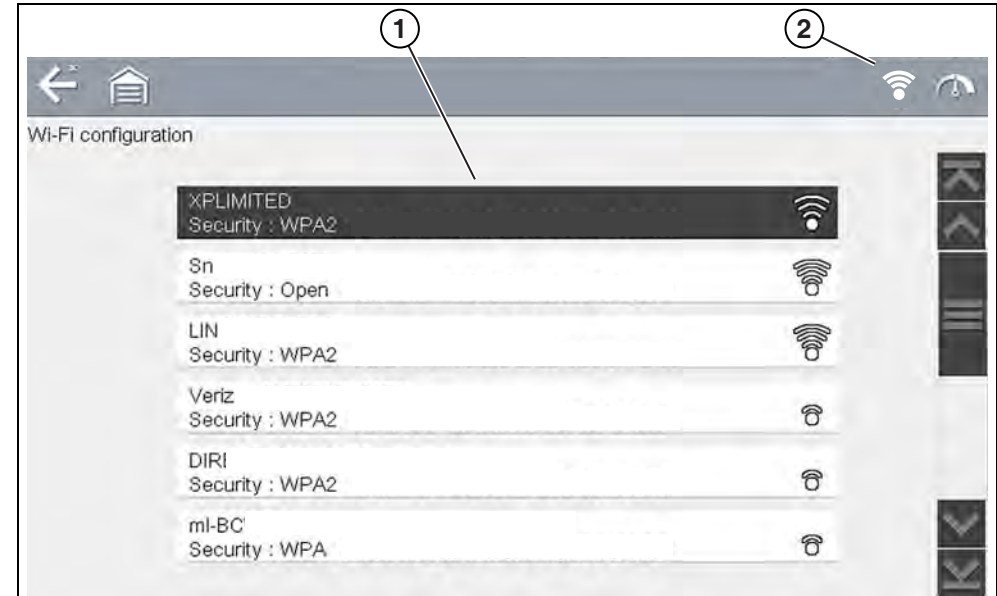

Figure 13-2 Wi-Fi Configuration Screen
- Select your network. Use the scroll feature to show all active connections (Figure 13-2).